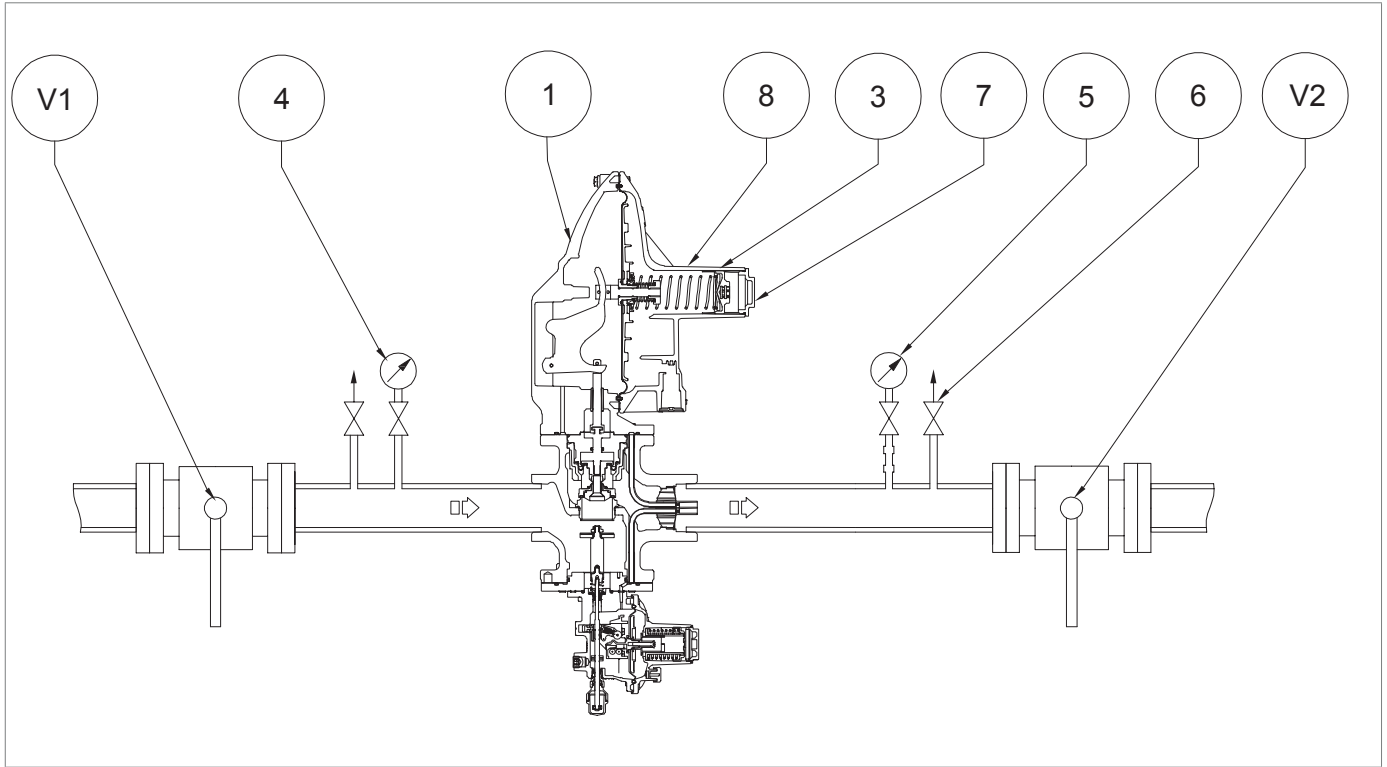

Fig. 8.24. Commissioning of the CIRVAL regulator with LA slam-shut valve
3	In case the required minimum pressure value is not reached by intervention of the minimum block, remove the adjustment ring nut (fig. 8.20, ref. 3) and remove the adjustment spring (fig. 8.24, ref. 8). NOTICE Check the value of the slam-shut valve tripping pressure indicated by the downstream pressure gauge (fig. 8.20, ref. 5).
5	After verifying that the slam-shut valve trips at the preset value, act as follows: <ol style="list-style-type: none"> Close the air vent valve (fig. 8.20, ref. 6) Position the adjustment spring (fig. 8.24, ref. 8), the end cap (fig. 8.24, ref. 7), adjusting screw (fig. 8.20, ref. 3) Slowly open the upstream shut-off valve (V1) until the downstream pressure value (Pd) reaches the regulator's set value, referring to the downstream pressure gauge (fig. 8.20, ref. 5) Close the upstream shut-off valve (V1) Slowly and partially open the air vent valve (fig. 8.20, ref. 6) to decrease the downstream pressure by referring to the downstream pressure gauge (fig. 8.20, ref. 5) until the minimum pressure trip value is reached Verify the correct calibration of the minimum spring by repeating steps 3-4-5 at least three times Perform calibration of the main regulator referring to par. 8.5